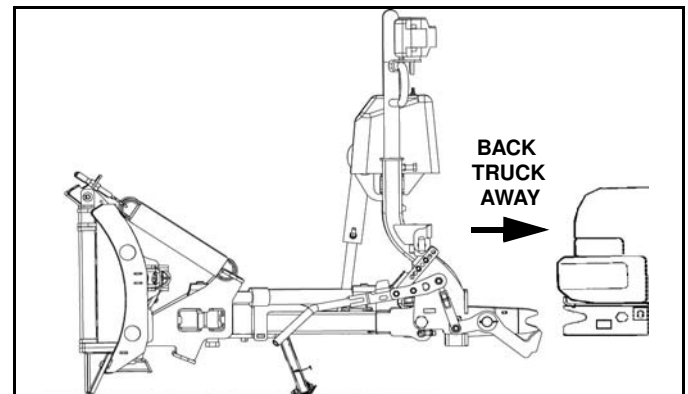

Figure 1-40
8. Back truck away from plow. (See Figure 1-40).